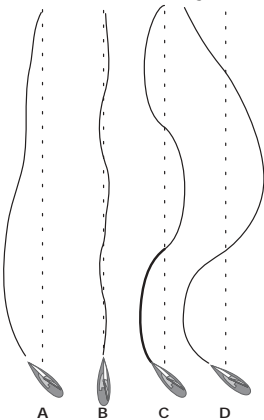

Fig 4.4 - Effects of Gain setting
Fig 4.4 shows the effect of setting the Gain too low (A) - the vessel takes a long time to return to the correct heading. B shows the ideal setting, where errors are quickly corrected. C illustrates the effects of setting the Gain too high, which causes the vessel to oscillate around the correct heading. Excessive Gain (D) creates a tendency to instability of course, leading to increasing error.